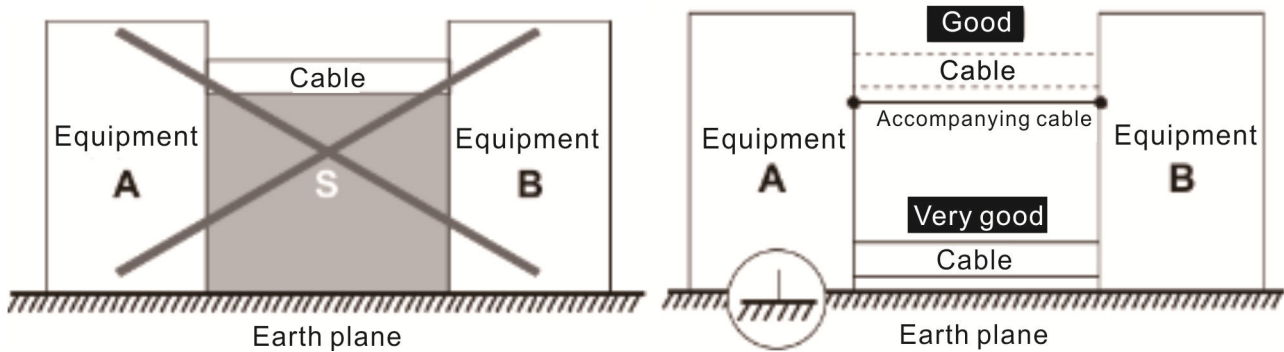

Figure 1.6.7-1: Placing cables flat on a metal surface.
- 1.6.7 Cables should not suspend in mid air. Place them flat on a metal surface if possible, as shown in Figure 1.6.7-1.